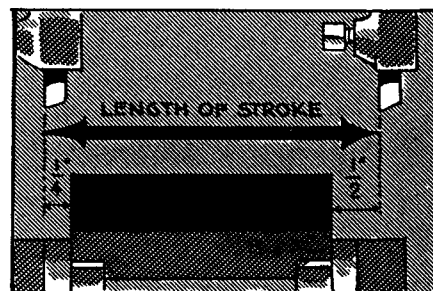

FIG. 371
4. Adjust the ram for a stroke of about three-quarters of an inch longer than the length of the surface to be machined (Fig. 371). Refer to page 79 for adjusting the stroke.
5. Position, or adjust, the ram so that the tool will be about one-quarter of an inch beyond the work when it is at the extreme forward position (Fig. 371). Refer also to page 81 for positioning the ram.
6. Move the ram to the extreme end of the return stroke; there should be just enough clearance for the tool to drop clear of the work ready for the next cut (Fig. 371).